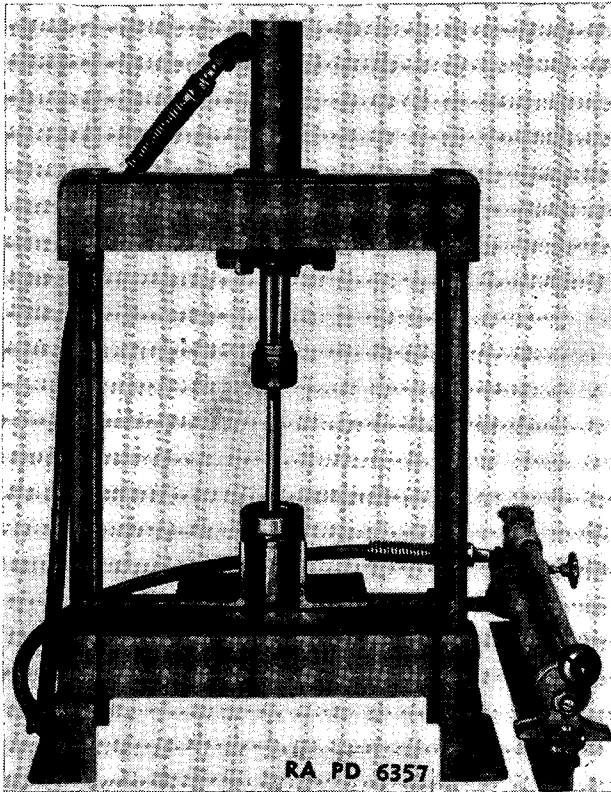

FIGURE 130.—Pressing front bearing off mainshaft.
(2) Remove mainshaft front pilot bearing—press. Set up in press and remove bearing (B184339) (fig. 130).
a. *Cleaning bearings.*—(1) Place all shaft roller and ball bearings into cleaning fluid and allow them to remain long enough to loosen old grease and lubricant.